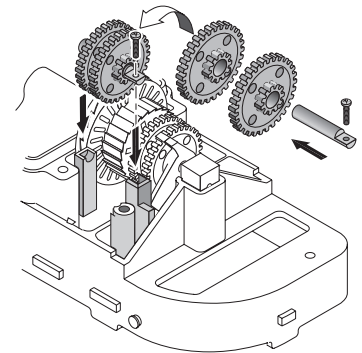

Figure 24
4. Reinstall the short gear shaft, set screw and two gears (**see Figure 24**); the small pinion gears and the shaft set screw go on the side toward the end of the cleaner – away from the oscillator box. Make sure that the gears engage the gears on the long gear shaft.